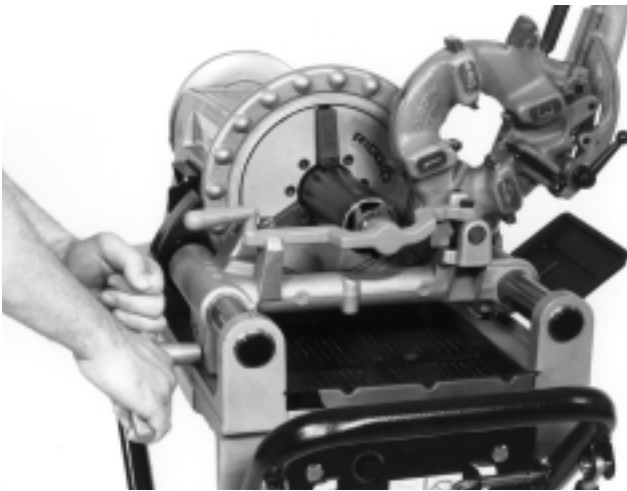

Figure 8 – Reaming Pipe With No. 344 Reamer
3. Position reamer into pipe and complete reaming by exerting pressure on handwheel (*Figure 8*).